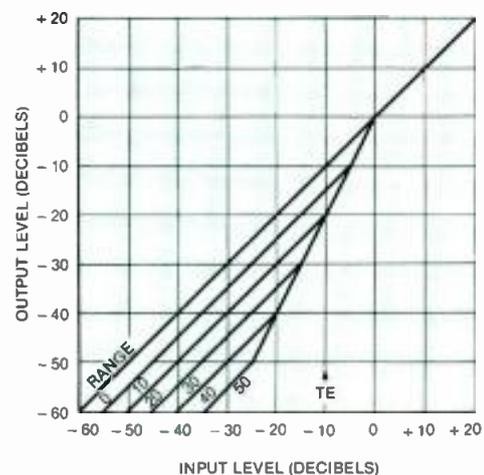

Figure 2. The effect of the range control on the transfer function is shown above. The slope is set to 1:2.
- A *range* control, sometimes called depth control, is provided on most gates and expanders. This adjustment presets the maximum amount of processor attenuation (reference threshold). Therefore, if the range control is set at 40dB, unwanted noise will be reduced by no more than a nominal 40dB below the threshold setting. (See Figure 2.)
the DA was often viewed as just one more piece of equipment that was as likely to fail as any of the downstream devices. Some engineers thought it didn't make sense to use DAs when resistor build-outs (such as that shown in Figure 2) would work just as well.